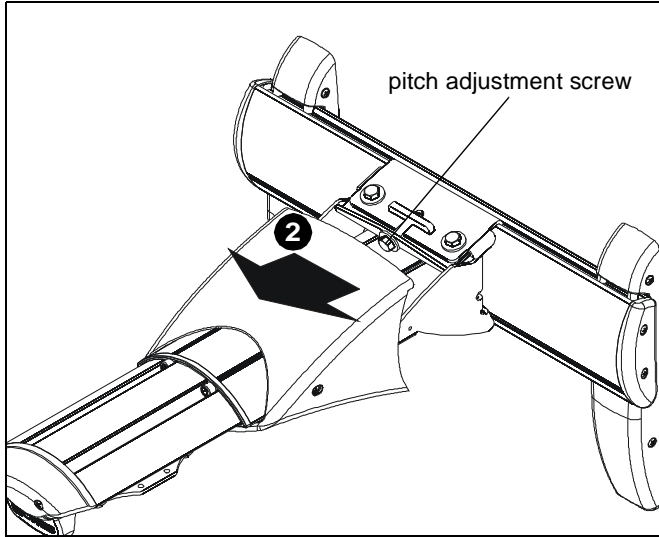

Figure 34
2. Slide outer cover of mount (A) away from mounting bracket to expose pitch adjustment screw. (See Figure 34)